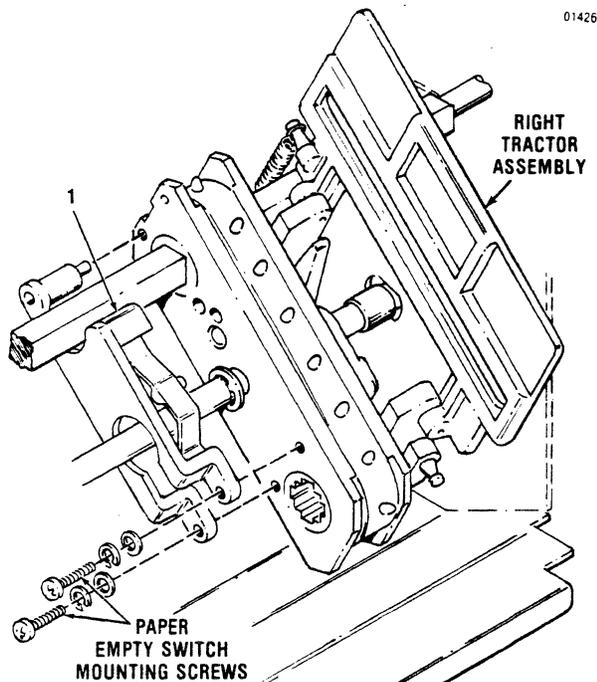

Figure 3-18 Removal/Replacement, Paper Empty Switch
The paper empty switch, item 1 of Figure 3-18, is located on the right pin feed tractor and is removed using a Phillips screwdriver. To remove the paper empty switch, refer to Figure 3-18 and perform the following steps: